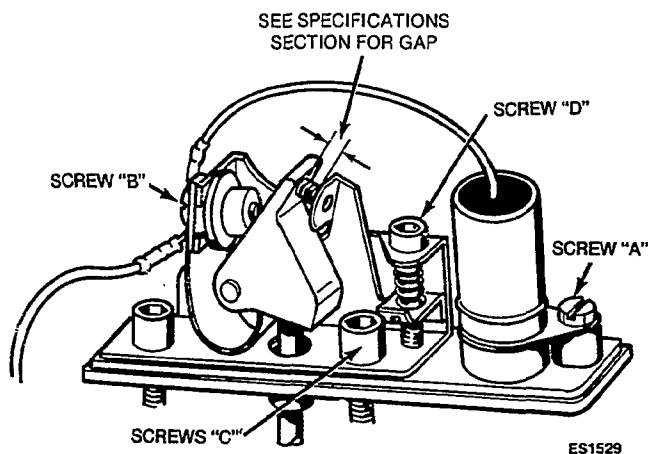

FIGURE 11. SETTING BREAKER POINTS
4. Remove the condenser mounting screw (A) and disconnect the condenser and ignition lead wires (screw B). Lift out condenser (see Figure 11).
5. Remove the breaker points mounting screws (C) and lift out the point assembly.
7. Use an allen head wrench to adjust set screw D to obtain the gap setting specified in the Specifications section. Measure the point gap with a flat thickness gauge (see Figure 11).